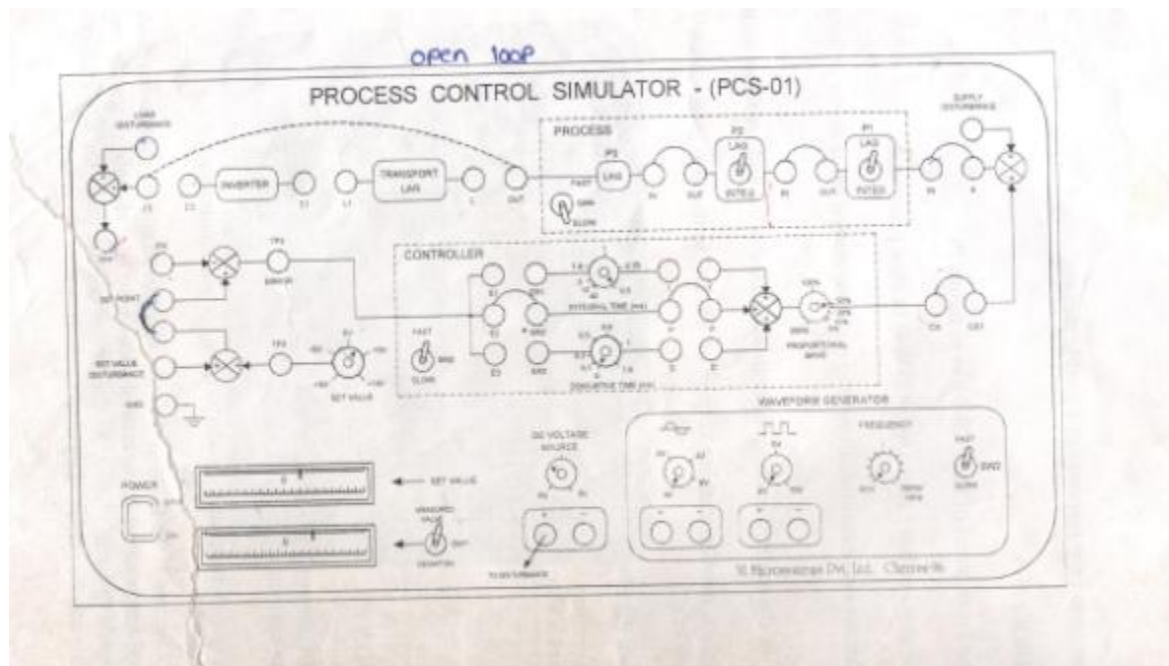
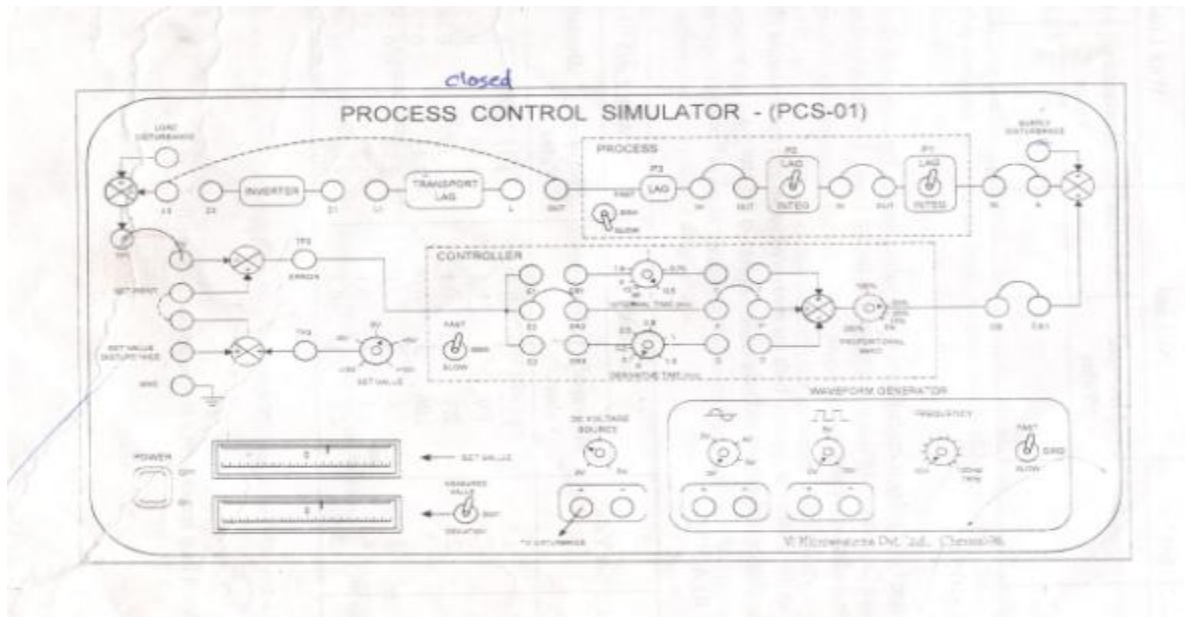

Figure 1 (Open loop system)
Figure 2 (Closed loop system)
For the RC-circuit as shown in Fig. 1, the equation governing its behavior is given by
1. Patch the front panel of the PCS-01 as given below in Figure 1 for open loop system and Figure 2 for closed loop system.